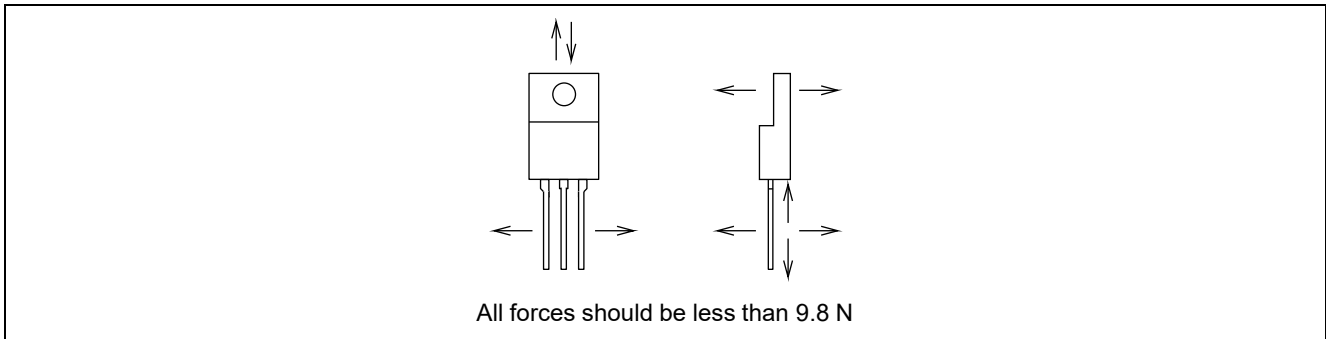

Figure 14 Stress to electrode leads
Excessive stress given to electrode leads in a device may damage the device. The load as shown by the arrow in Figure 14 should be less than 9.8 N.
- (a) It is desirable to use a dedicated forming machine to avoid the stress as shown in Figure 14. Alternatively, prepare two narrow tipped radio pliers, fix the base of the lead by one pliers, and bend the lead on the tip side by another pliers.